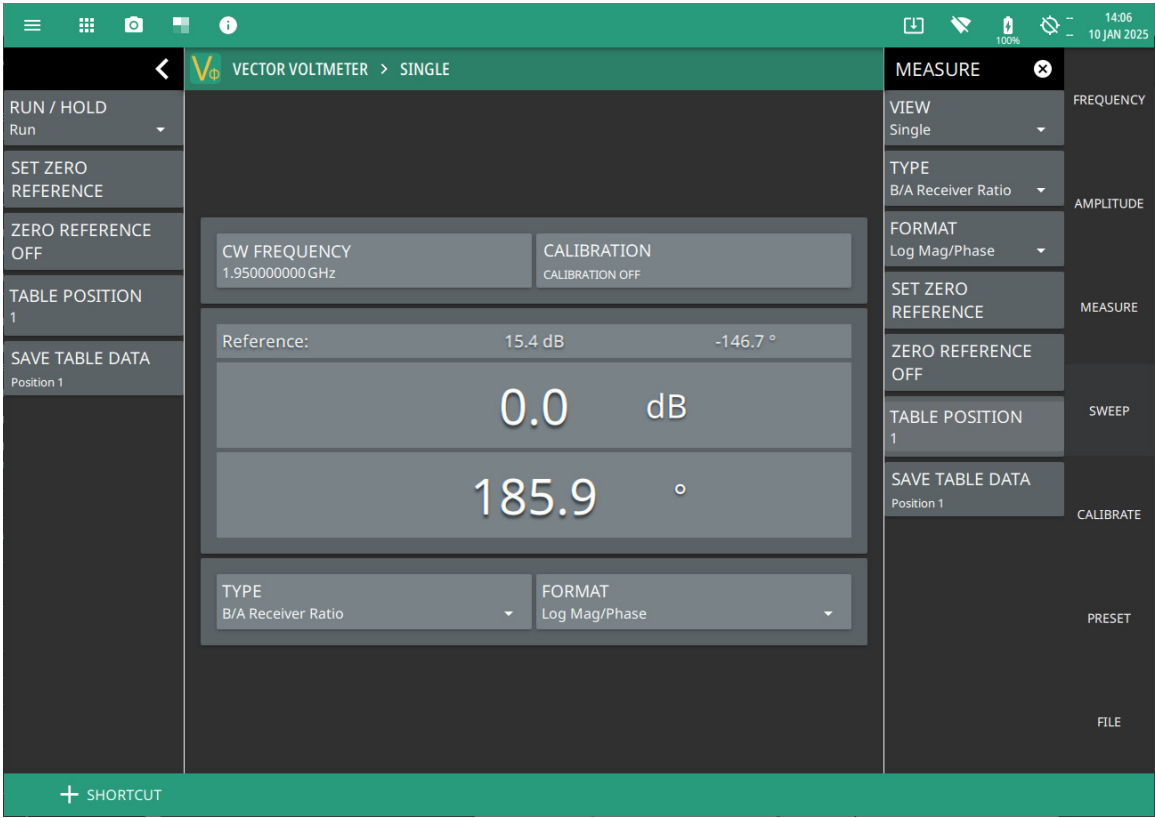

Figure 3-10. Second Side of Splitter Relative to Saved Reference
3. After the reference value has been stored (in Step 2), reverse the splitter output connections and remeasure. The difference between both outputs of the splitter is displayed as the *Relative Value* that is shown in green on the MS2085A/89A screen. This is the error between the two outputs of the splitter. A properly working splitter should have very closely matched values, as seen in Figure 3-10. When in doubt, consult the splitter data sheet to determine if it is still functioning within specifications.